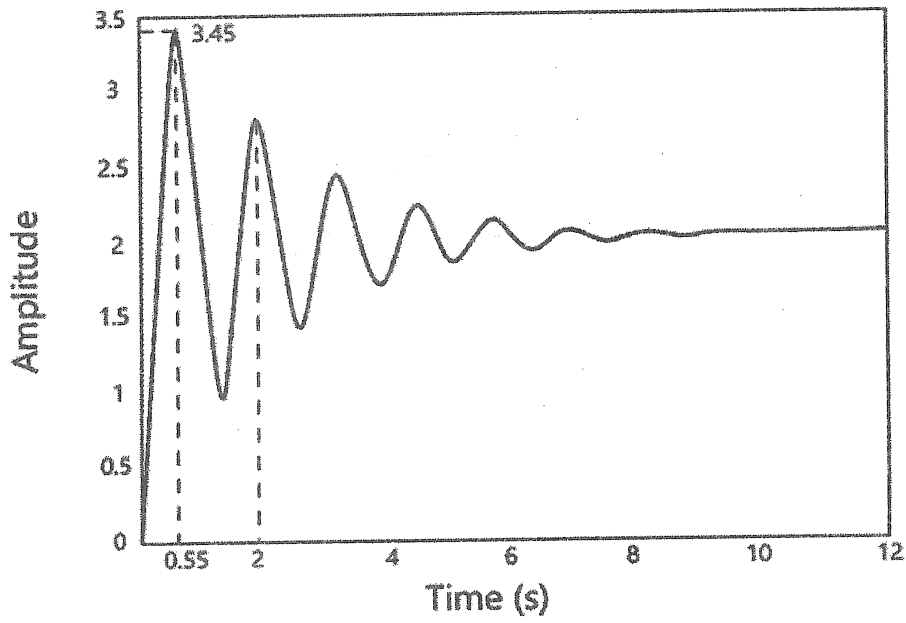

Fig.1
- 9 Figure 1 shows the unit step response of a second order system. Determine the following from the plot